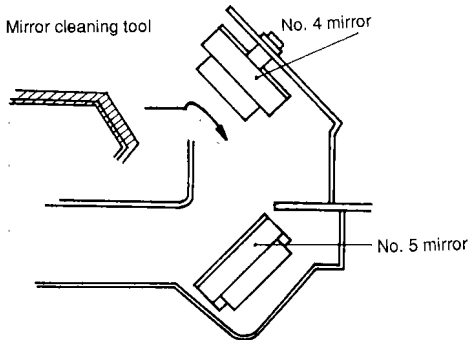

Figure 4-20
- 2) Detach the lens cover, and insert the mirror cleaning tool as shown in Figure 4-20.